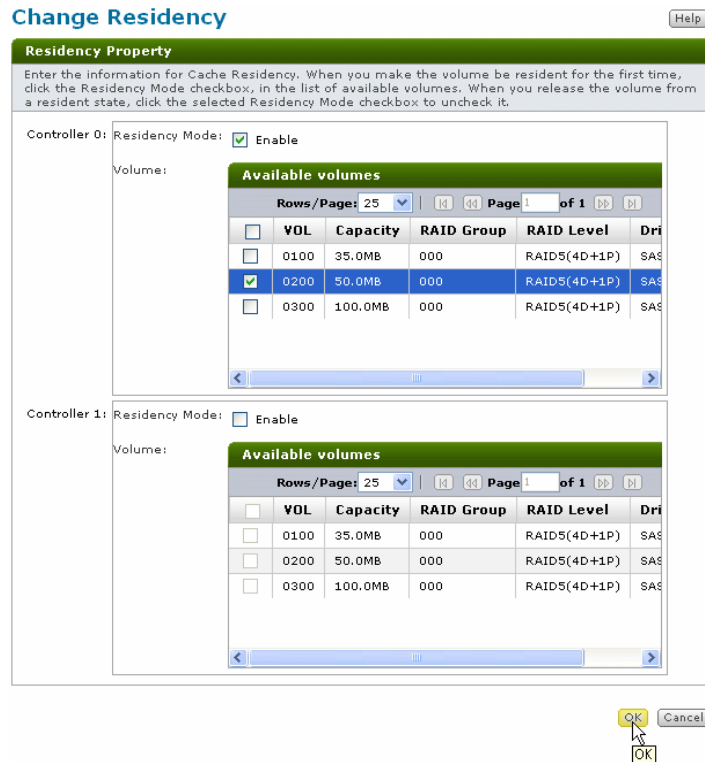

Figure 7-15: Change Residency dialog box
- 4. Click **Change Residency**. The Change Residency screen displays as shown in Figure 7-15.